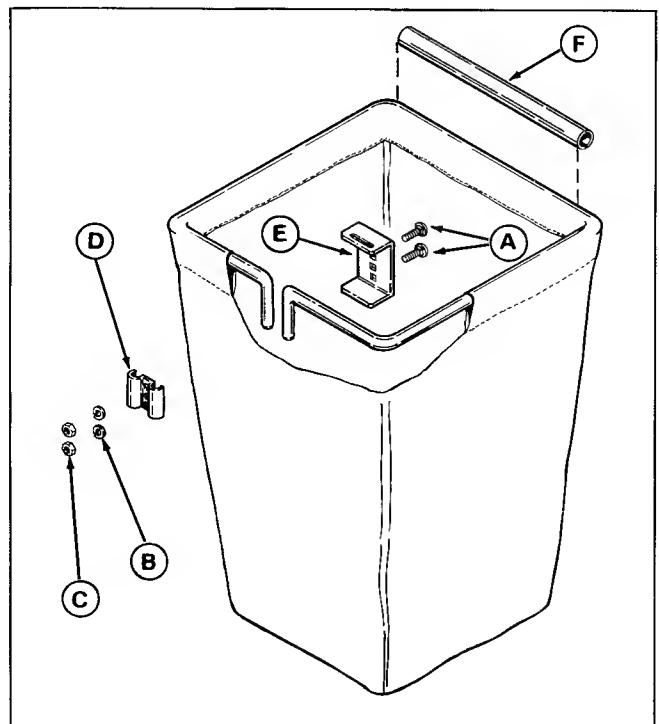

Figure 13.
15. Connect the brackets (D & E, figure 13) to the bag frames with slot toward top. Use two carriage bolts (A), lockwashers and nuts for each bag. Use top and bottom holes in brackets (D & E); the middle hole will be empty. The clutch is shown cut away for clarity only - be sure the brackets are outside of the bag.
16. Install the tubes (F, figure 13) onto the bags as shown.